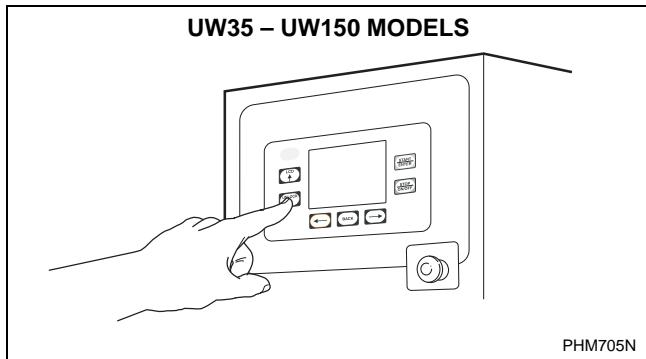

Figure 8
- On UW35-UW150 models. Press the door unlock button located on the lower left front on the control. Refer to *Figure 8*.
As the cycle proceeds, the display will show a summary of the cycle occurring. Refer to *Figure 8*